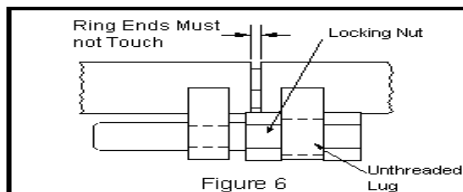

Figure 6
- LOCK RING** – by tightening the nut against the unthreaded lug (see Fig. 6).